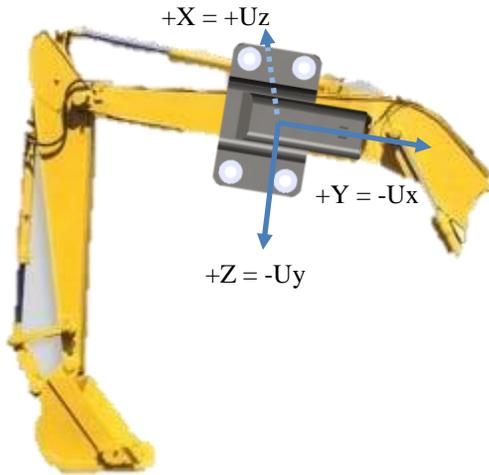

FIGURE 3
**Example 2:** Boom Orientation Monitoring with mounting as depicted in FIGURE 3.